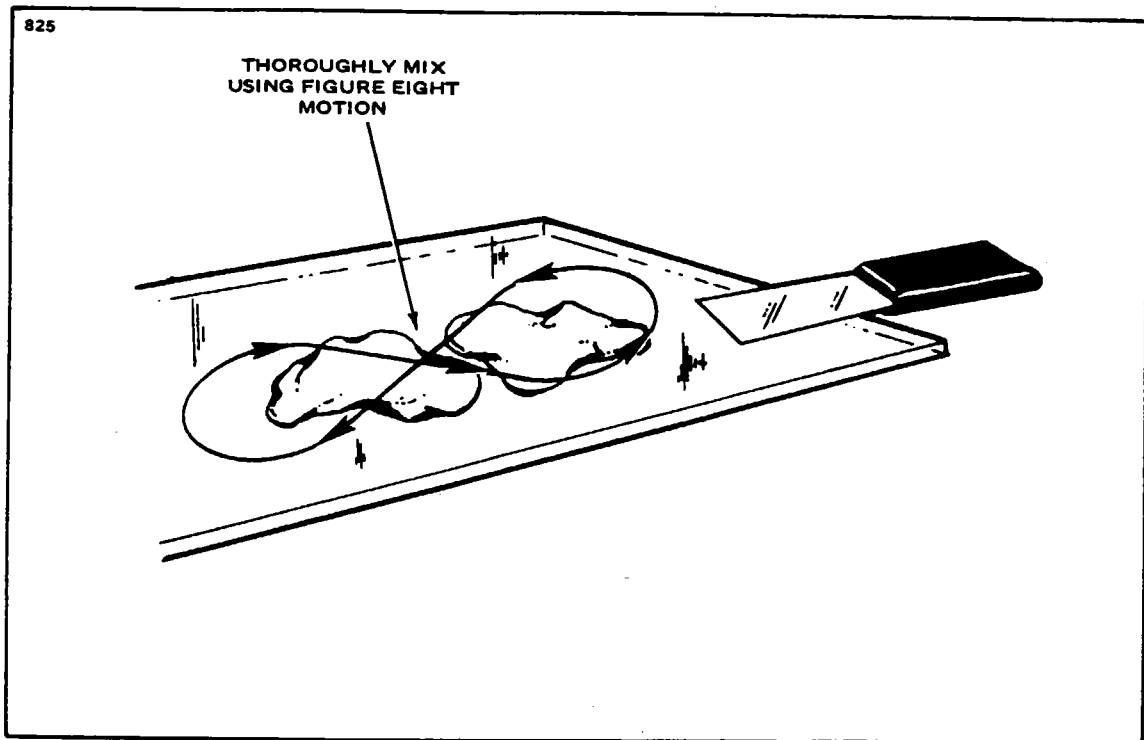

Figure 4-8. Mixing of Epoxy Patching Compound.
6. The patching compound is mixed in equal portions on a hard flat surface using a figure eight motion. The damaged area is cleaned with perchlorethylene or VM&P Naphtha prior to applying the compound. (Refer to Figure 4-8.)